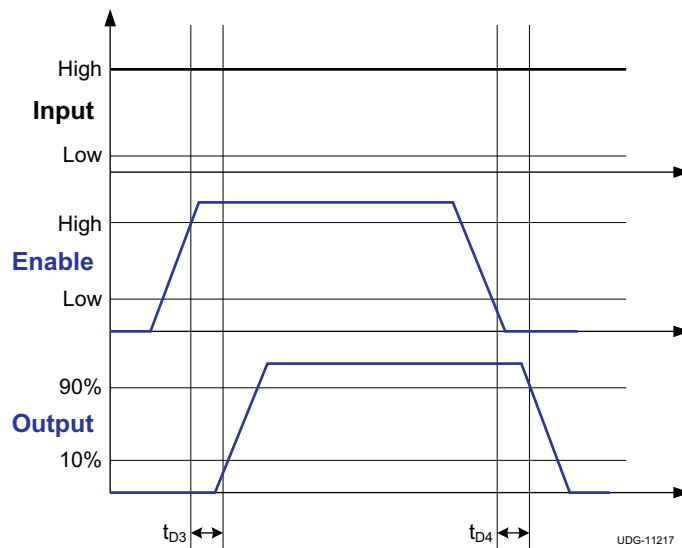
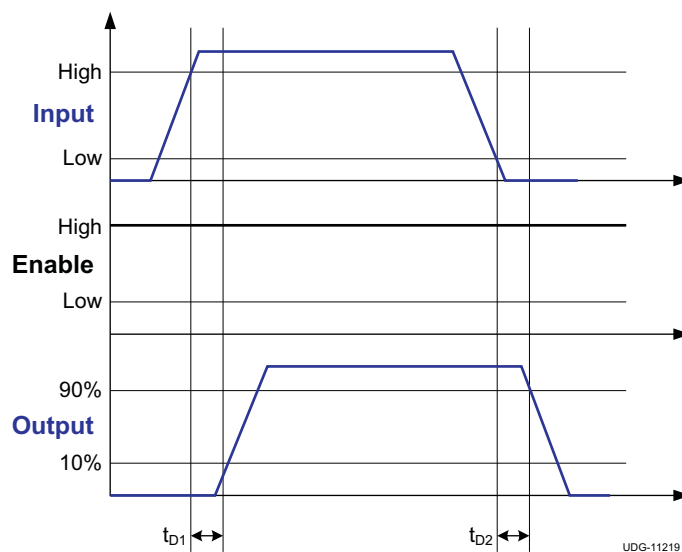

Figure 1. Enable Function
Figure 2. Input-Output Operation
(1) See the timing diagrams in Figure 1 and Figure 2